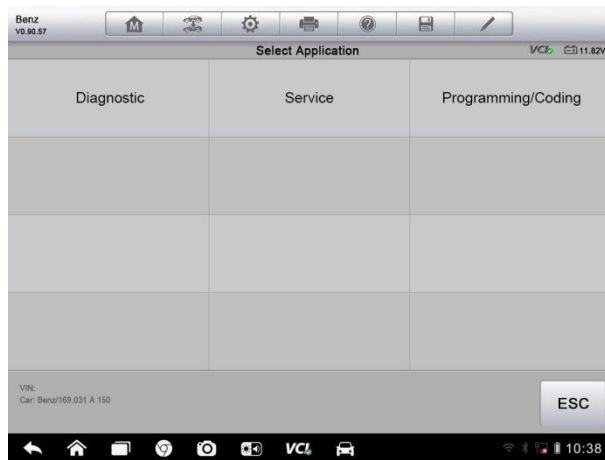

Figure 4-3 Sample Vehicle Diagnostics Screen
5. Tap **Done**. The vehicle will be identified in a few seconds, and once the matching is successful, the system will guide you to the Vehicle Diagnostics screen directly. (*Figure 4-3*)
9. Select Yes and the vehicle diagnostics screen displays. (*Figure 4-3*)
6. Select **Yes** and the vehicle diagnostics screen displays. (*Figure 4-3*)
The Vehicle Diagnostics screen (*Figure 4-3*) has three main options: